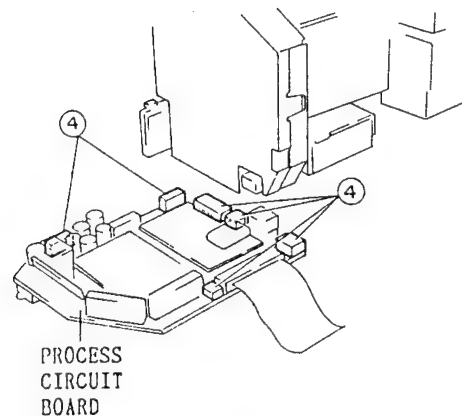

Fig. 2-26
4. Disconnect six (6) connectors (CN001, CN007, CN202, CN203, CN211, CN 401). (See Fig. 2-26)